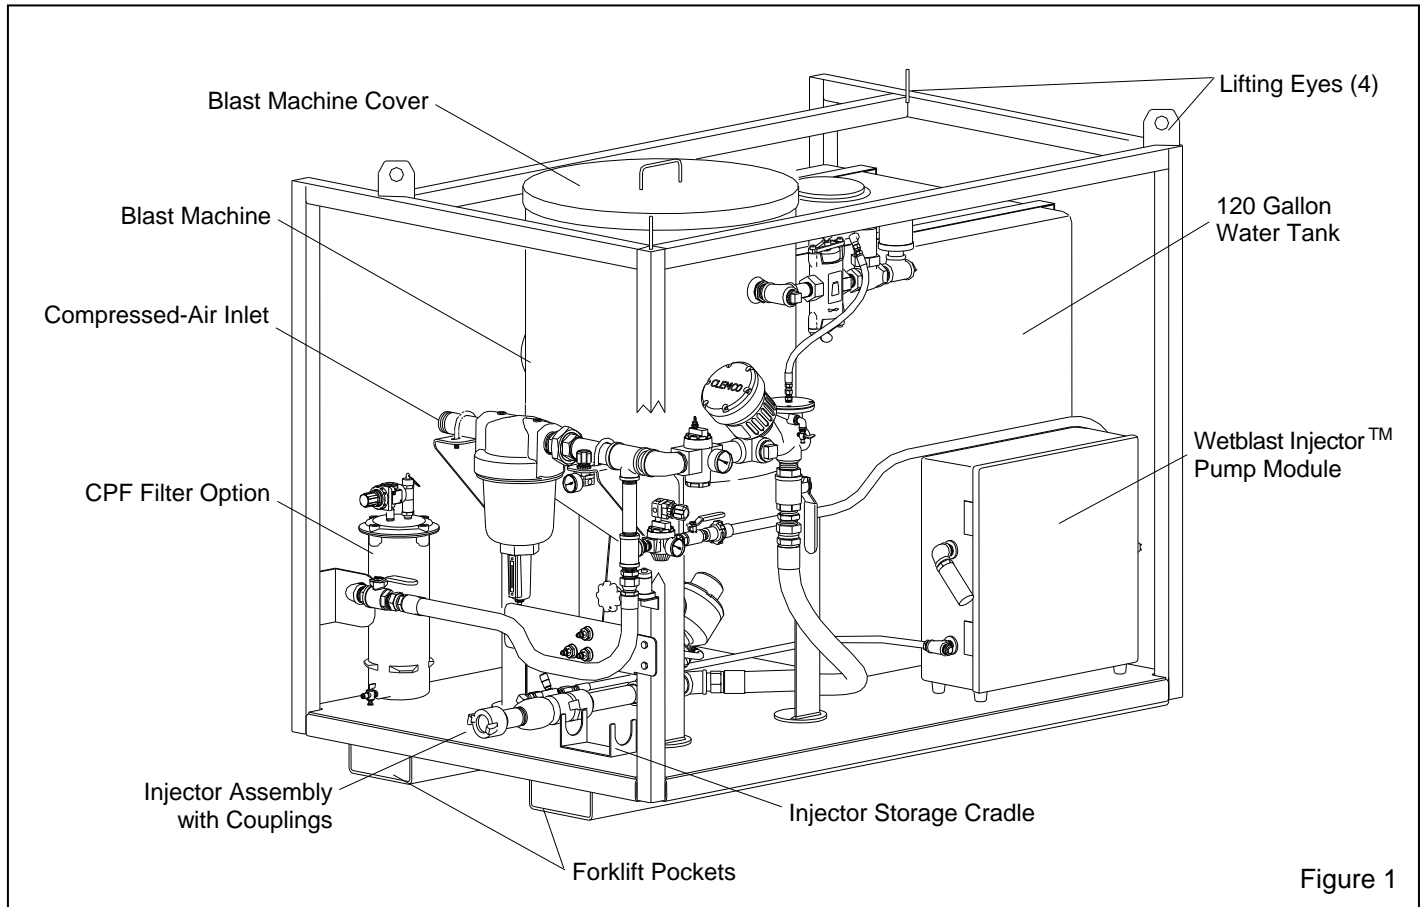

Figure 1
1.4.1 The primary components of the blast and injector system are shown in Figure 1. They include: